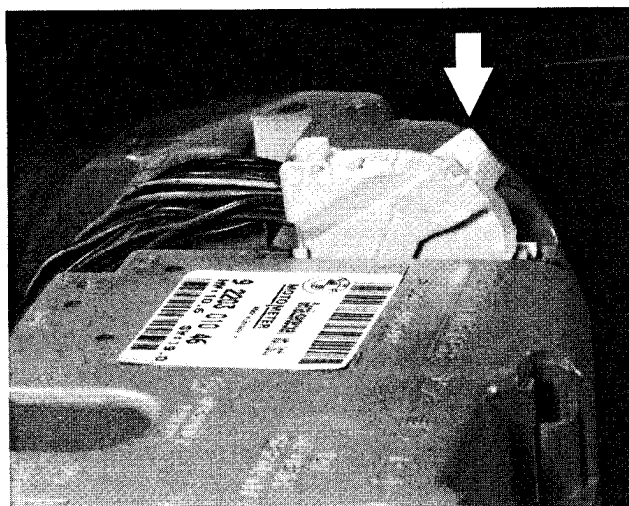

Fig. 2. Instrument cluster connector locking lever (arrow).
5. Place a towel over steering column. Carefully tilt top of cluster out of dash panel. Unlock and disconnect harness connectors from back of cluster. See Fig. 2.